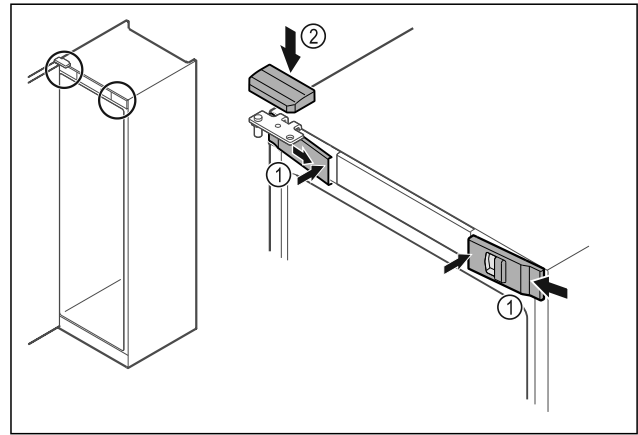

Fig. 41
- Hook in the front covers Fig. 41 (1) on the side and snap them into place on the inside.
- Snap on the top cover Fig. 41 (2) from above.